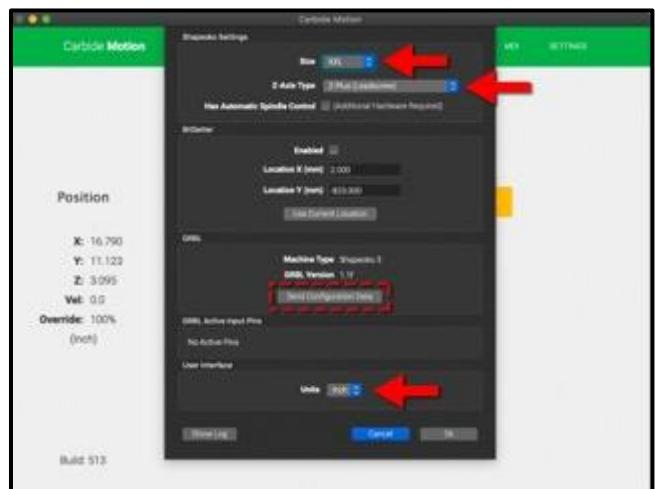

Figure 13-3
2. Choose “XXL” from the **Size dropdown list**, “Z-Plus (Leadscrew)” from the **Z-Axis Type dropdown list**, and “Inches” from the **Units dropdown list**. See *Figure 13-3*.
3. Click the **Update Shapeoko Configuration** button in the middle of the dialog window. See *Figure 13-3*.